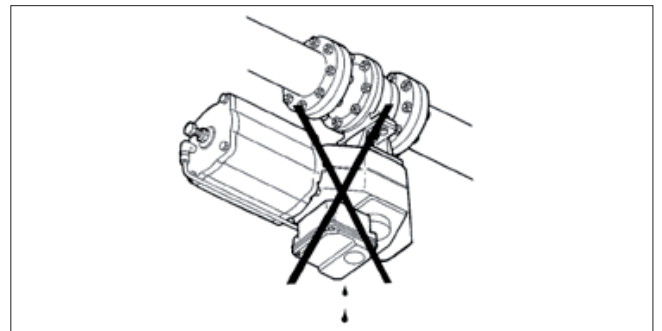

Figure 6. Avoid this mounting position
6. It is not recommended to install the valve with the stem on the underneath side because dirt in the pipeline may then enter the body cavity and potentially damage the stem packing (**see Figure 6**).